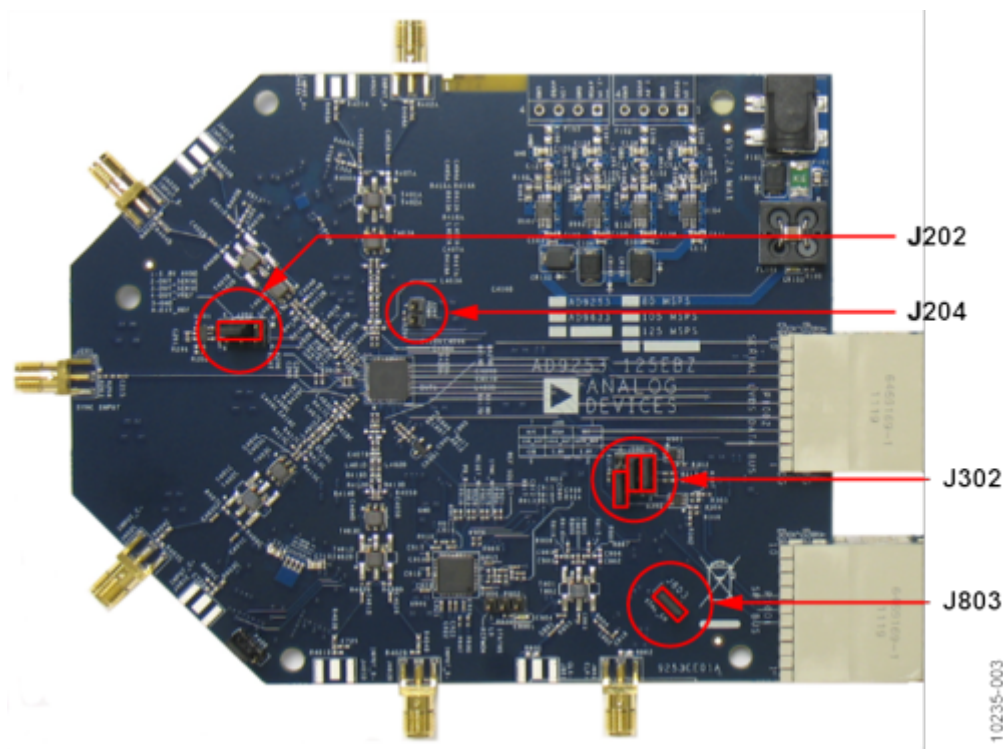

Figure 2. Default Jumper Connections for AD9653-125EBZ/AD9253-125EBZ/AD9633-125EBZ Board
5. On the ADC evaluation board, confirm that the jumpers are installed as shown in Figure 2 and Table 1.
Set the jumper settings/link options on the evaluation board for the required operating modes before powering on the board. The functions of the jumpers are described in Table 1. Figure 2 shows the default jumper settings.